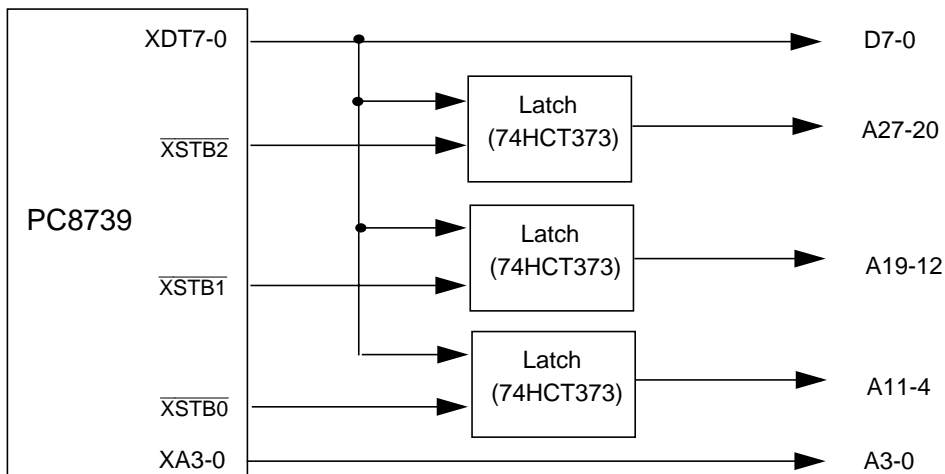

Figure 29. Latched Mode X-Bus Transactions External Logic
3. Address multiplexing on XDT7-0 and the  $\overline{\text{XSTB2-0}}$  is designed for glueless interface with off-chip latch components. See the example using 74HCT373 latches in Figure 29.